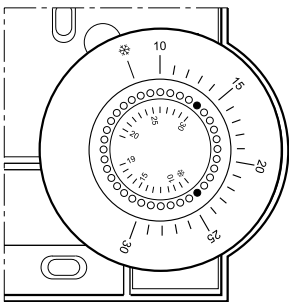

Fig. 15: Limiting the adjustment range
- ▶ Place the two small pins into the holes of the adjustment dial in order to limit the adjustment range (see Fig. 15). Orientate yourself on the basis of the inner scale: In Fig. 15, the pins are inserted so that the adjustment dial can only be adjusted in the range of 19 °C to frost protection * (lower limit) and 19 °C to 30 °C (higher limit) around the value 19 °C.